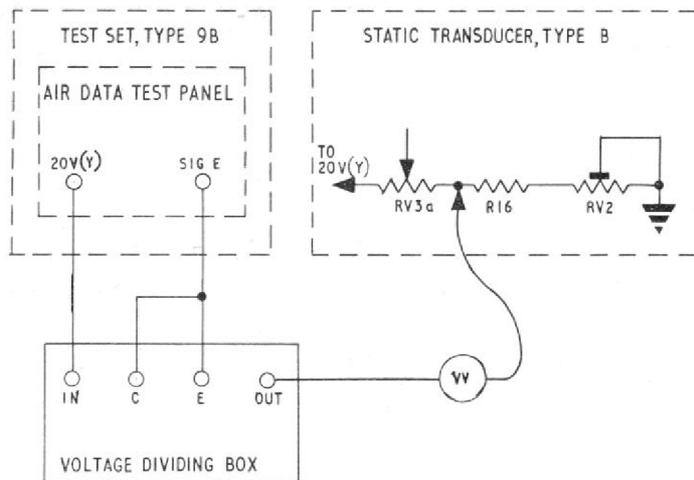

Fig. 3. Test connections for log S calibration—post-mod. ADS/75
11. Connect the valve voltmeter set to the 300mV range between terminals B and G of TB1 (Chap. 11, fig. 3) with the earth terminal of the meter connected to terminal B. Connect terminals B, H and J of TB1 together. Set PCU mains and switch S1 (test set, Type 9B) to ON and S4 to HT 4T. Turn the 200T gear of axis 2 until G1 registers 200 divisions. Holding axis 2 steady, adjust RV103, if necessary, until the valve voltmeter registers  $24\text{mV} \pm 4\text{mV}$ . Release axis 2 and repeat.
- (2) Release and swing clear the transistor amplifier as per Appendix 4, para. 11 without disturbing the cable connections.
- (3) Connect a shorting link between the junction of RV3a and R15 and the 20V(Y) side of RV4.
- (4) Connect up subsidiary test equipment as shown in fig. 3.
- (5) Set the voltage dividing box to a ratio of 0.3307, switch test set, Type 9B S1 to ON and adjust RV2 until the valve voltmeter indicates a null.
- (6) Remove the shorting link across R15 and RV4, and disconnect the wander lead.
- (7) Set the controlled static pressure to 1013.2 mb (pitot/static test set, Mk. 3) or zero feet height (ADS test set, Type B).
- (8) Ensure that the cam follower of CU1A mechanism is resting at a point  $\frac{1}{8}$  in. clockwise (when viewed from the top) of the small dip in cam profile. If the cam follower is incorrectly set refer to para. 24.
- (9) Connect the wander lead of the subsidiary test equipment to the junction of RV3a and R15, set the divider box to 7450 and adjust RV4 until the valve voltmeter indicates a null.
- (10) Disconnect the wander lead from the junction of RV3a and R15, connect it to T1 INPUT on the ADTP of test set, Type 9B and set S4 to LOG S.
- (11) Release the three 6BA screws clamping RV3, set the voltage divider box to 7338 and turn RV3 until the valve voltmeter indicates a null.
- (12) Disconnect the wander lead from T1 INPUT and repeat the procedure of sub-para. (9), (10) and (11).
- (13) Refasten the three clamping screws ensuring that the valve voltmeter remains at the null while doing so, and remove subsidiary test equipment.
- (14) Carry out the ranging tests of Appendix I in respect of LOG S.